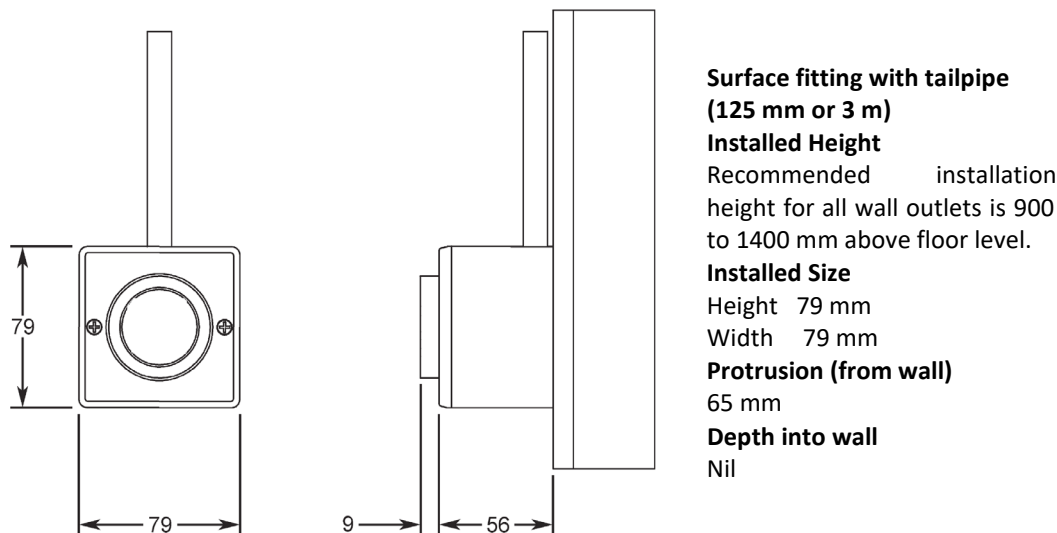

Figure 5-3 Surface mounting terminal units
5.3.3 Surface Mounting Terminal Unit (Figure 5-3)